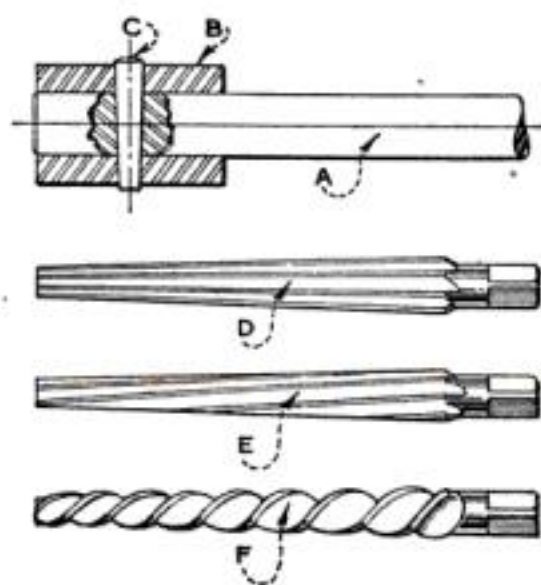

Fig. 1. If you had to ream the hole for the taper pin C, which reamer would you choose?
"Here are a couple of boxes of shafts and collars (A and B, Fig. 1)," explained the young machinist. "I have to drill and ream the hole for the taper pin (C) and assemble the pin. Every little while the reamer seems to catch in the work and pull in. The next thing—snap!—it breaks, no matter how carefully I feed it."
GRIMES looked at the work for a moment and then said, "Well, Harvey, a reamer like you are using (D, Fig. 1) is best suited for hand reaming. A spiral fluted reamer (E) would not cause you so much trouble, as the spiral, being cut left-hand, tends to keep the reamer from pulling into the work. I am referring to the regulation taper reamer particularly suitable for machine reaming. There is still another form (F) made with a much greater twist. It is still better for steel work; indeed, it is a special form that is exceptionally good. Let's try the tool crib and see what Charlie has."